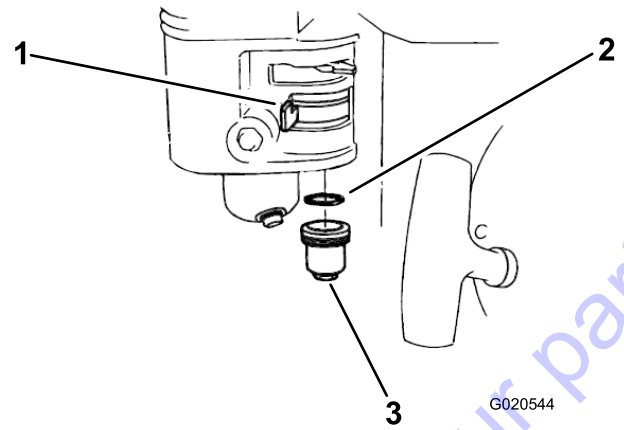

Figure 22
1. Move the fuel valve to the OFF position, then remove the fuel sediment cup and O-ring (Figure 22).
3. Place the O-ring in the fuel valve, and install the sediment cup (Figure 22).
3. Remove the fuel sediment cup (Figure 22) and empty the fuel from it.
4. Move the tank fuel-shutoff valve (Figure 22) to the ON position, and drain the fuel from the fuel tank into a suitable container.
5. Replace the sediment cup and tighten securely (Figure 22).